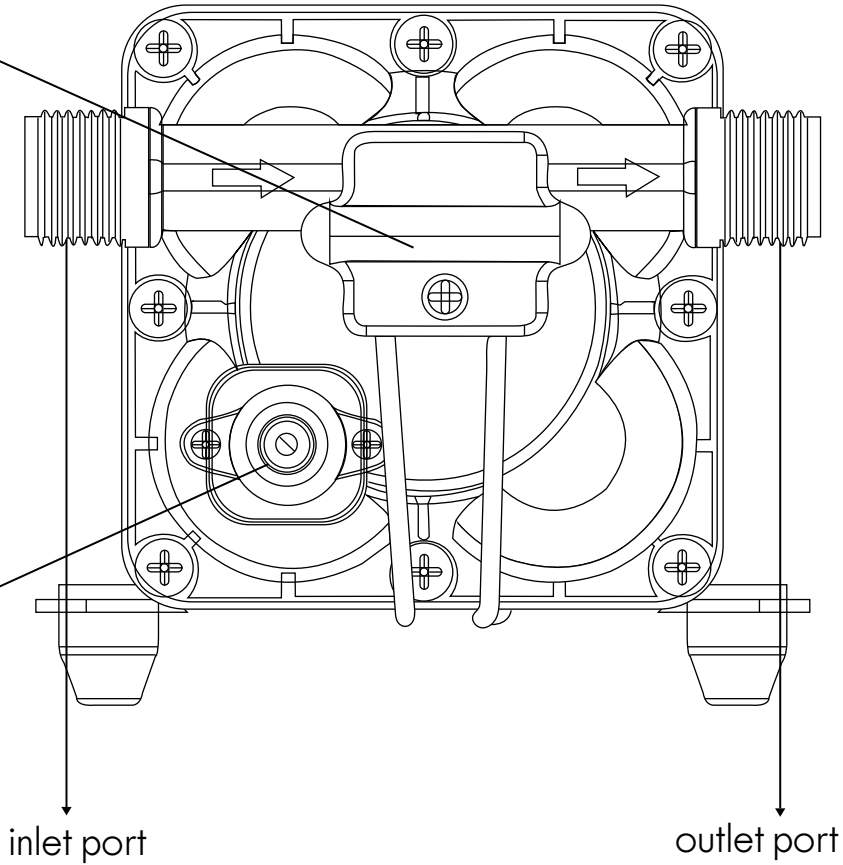

FIG 1
3. Locate the Inlet and Outlet Ports (**FIG 1**) on the Water Pump, you can differentiate each port by the arrow on each port which indicates the water flow direction.